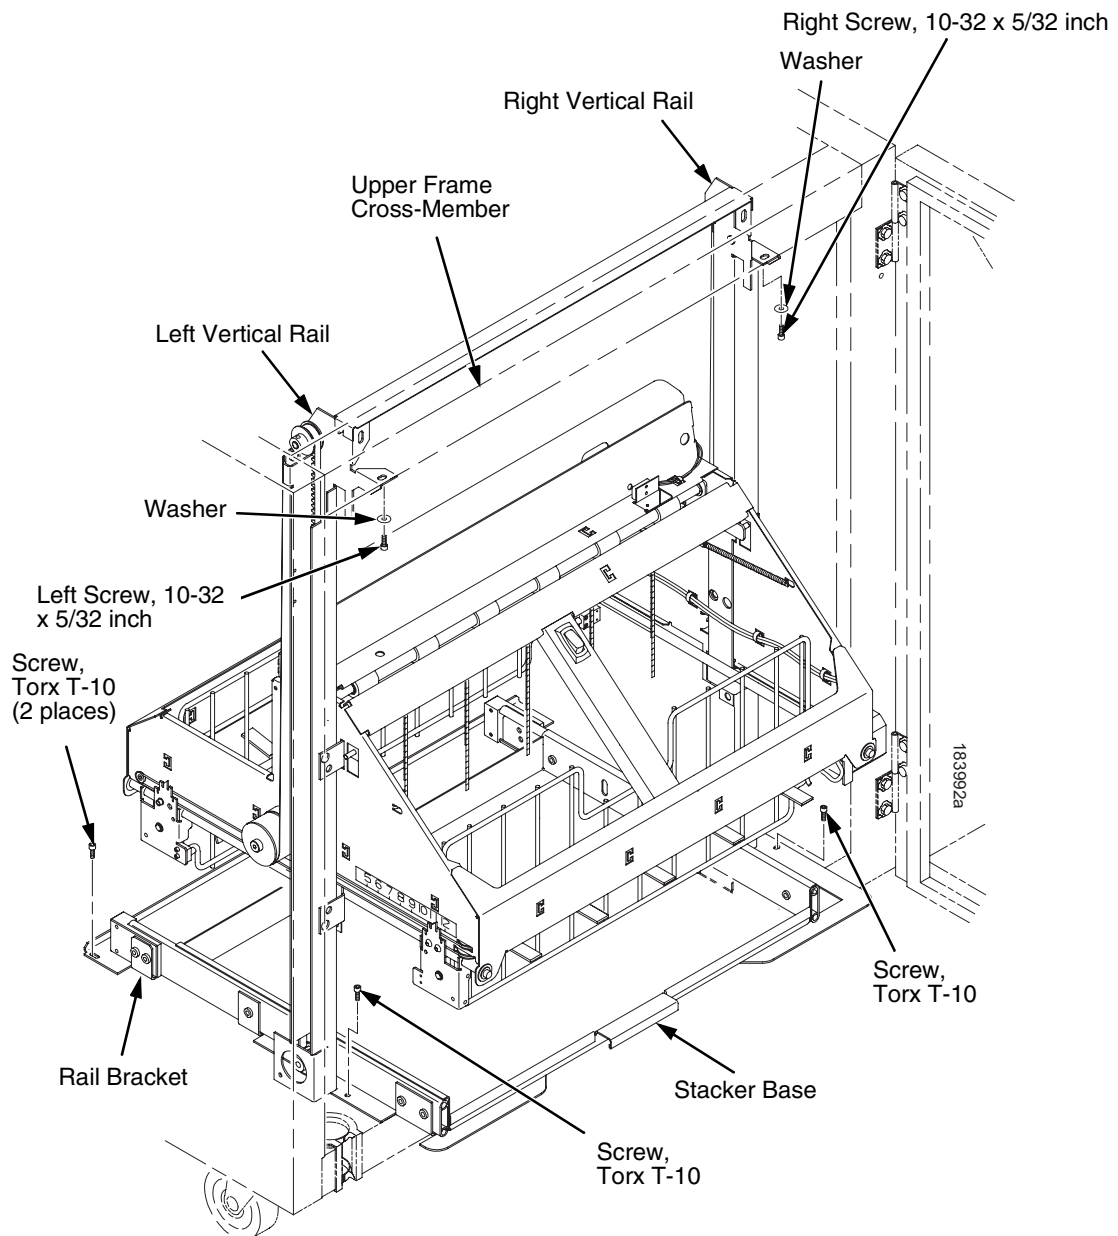

Figure 74. Preparing the Stacker for Removal
6. Remove the two 10-32 x 5/32 inch buttonhead screws and washers securing the vertical rails to the upper frame cross-member at the rear of the cabinet. (Figure 74.)
7. Remove the two Torx T-10 screws securing the stacker base to the cabinet floor. (Figure 74.)
8. Remove the two Torx T-10 screws that secure the rail bracket to the cabinet floor. (Figure 74.)